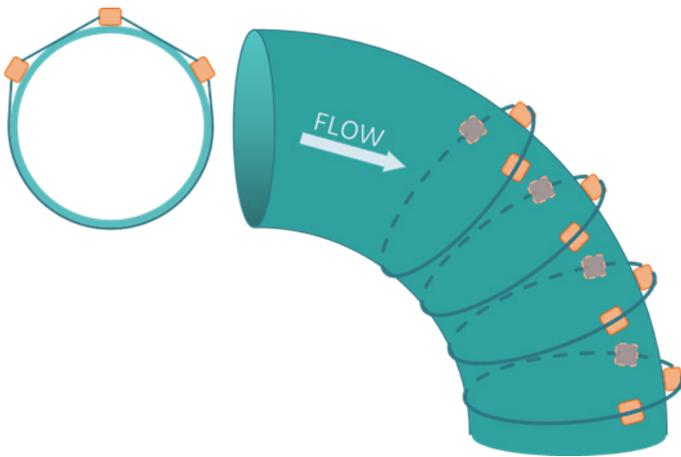

Figure 1: Sensor configuration on elbows
Default sensor configurations are depicted in Figures 1 and 2. For straight piping, eight sensors are needed; on elbows, 12 are used. The number of sensors can be customized, too, depending on application requirements. We determine the exact required hardware and installation duration upon completion of the site survey.
The number of sensors in circumference, i.e. sensors per strap, is limited. The maximum number of sensors per strap is determined by the pipe's outer diameter (OD), as shown in Figure 3 below. The strap must touch the pipe between two adjacent sensors, as is shown in Figures 1 and 2 below.